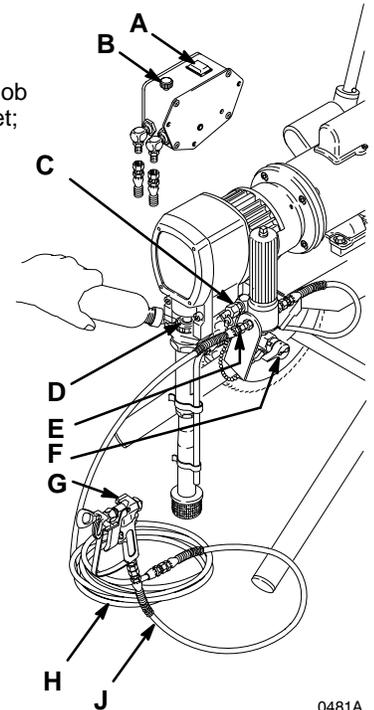

Fig. 2
1. **Connect Hose and Gun** (Refer to Fig. 2)
- a. Remove the plastic cap plug from the filter outlet nipple (E). Screw the 15.2 m main fluid hose (H) onto the nipple.
- b. Connect the 0.9 m hose (J) between the fluid hose and the gun inlet.
2. **Two Gun Hookup** (Refer to Fig. 2) Remove the cap from the secondary hose outlet (C). Attach an accessory hose and gun to the 1/4 npsm(m) nipple.
3. Never install any shutoff device between the filter and the main hose. See Fig. 2.
3. **Fill Packing Nut/Wet-Cup** (See Fig. 2) Fill the packing nut/wet-cup (D) 1/3 full with Graco Throat Seal Liquid (TSL), supplied.
- a. Be sure the ON/OFF switch (A) is OFF. See Fig. 2.